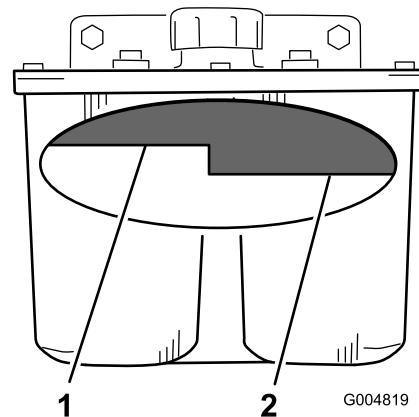

Figure 83
3. Clean the area around the filler neck of the hydraulic tank (Figure 83).
4. Remove the cap from the filler neck and look inside to check if there is fluid in the reservoir (Figure 83).
Note: The fluid level should be to the top of the hot level of the baffle, when the fluid is hot (Figure 83).